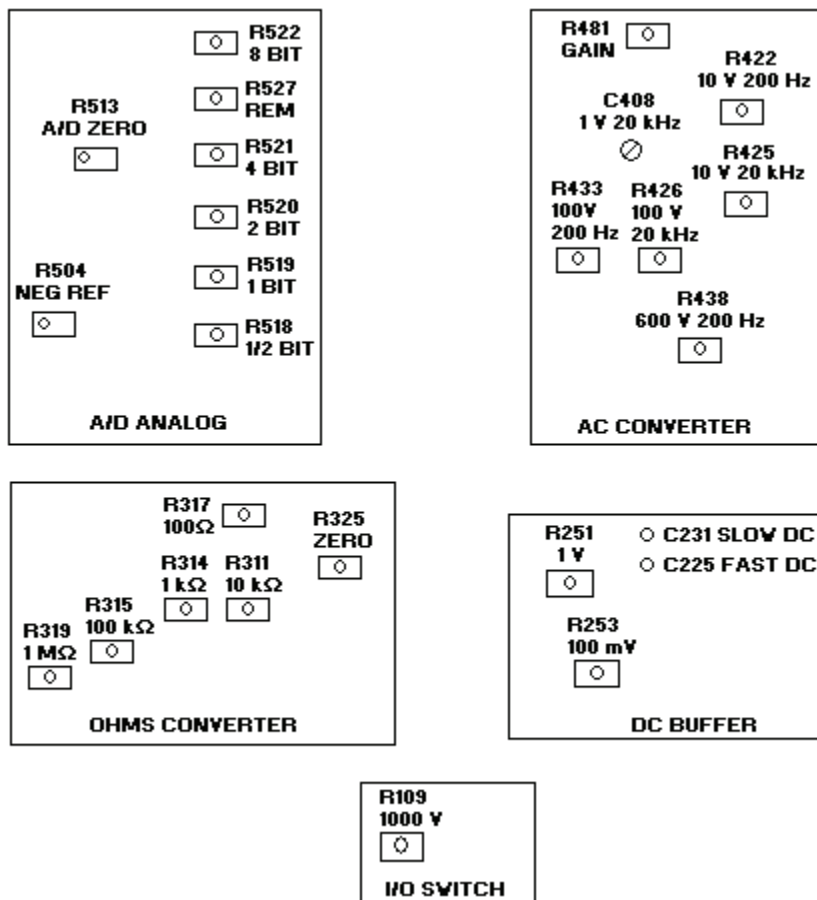
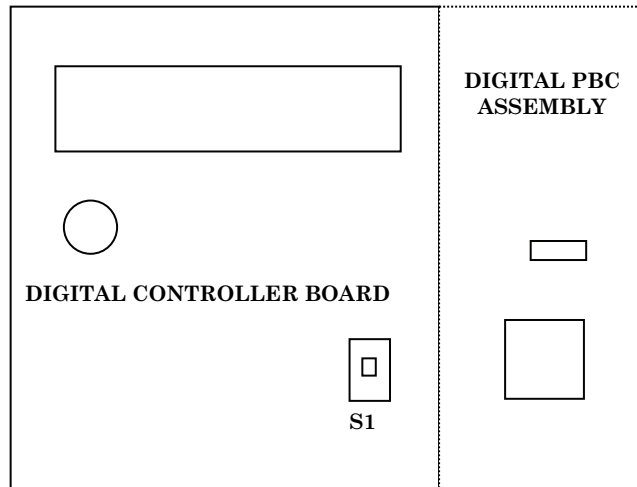

Figure 1. Adjustment locations.
Figure 2. Cal digit switch – S1 location.
- (1) Adjust DC BUFFER C231 SLOW DC (fig. 1) for TI indication between -0.001 and +0.001 mV dc (R).
- (2) Press **READING RATE** Δ or ∇ pushbutton to select **10/SEC** rate.
- (3) Adjust DC BUFFER C225 FAST DC (fig. 1) for TI indication of 0.000 mV dc with the + and - signs alternating (R).
- (4) Press **READING RATE** Δ or ∇ pushbutton to select **10/SEC** rate.
- (5) Set calibrator for a 190 mV output. Adjust DC BUFFER R253 100 mV (fig. 1) for TI indication between 189.998 and 190.002 mV dc (R).
- (6) Press S1 (fig. 2) to select cal digit mode.
- (7) Set calibrator for a 1.9 V output. Adjust DC BUFFER R251 1V (fig. 1) for TI indication between 1.89999 4 and 1.90000 6 VD (R).
- (8) Press S1 (fig. 2) to return to normal mode.
- (9) Press S1 (fig. 2) to select cal digit mode.
- (10) Set calibrator to **STANDBY** and disconnect calibrator from TI.
- (11) Short TI **V/ Ω INPUT HI** and **LO**. Adjust A/D ANALOG R513 A/D ZERO (fig. 1) for TI indication between $-0.0000\ 2$ and $+0.0000\ 2$ VD (R).
- (12) Remove short and connect calibrator **OUTPUT HI** and **LO** to TI **V/ Ω INPUT HI** and **LO**.
- (13) Set calibrator for a -8.1 V output. Adjust A/D ANALOG R522 8 BIT (fig. 1) for TI indication between $-8.0999\ 8$ and $-8.1000\ 2$ VD (R).
- (14) Set calibrator for a $+8.1$ V output. Adjust A/D ANALOG R504 NEG REF (fig. 1) for TI indication between $8.0999\ 8$ and $8.1000\ 2$ VD (R).
- (15) Set calibrator for a 4.1 V output. Adjust A/D ANALOG R521 4 BIT (fig. 1) for TI indication between $4.0999\ 8$ and $4.1000\ 2$ VD (R).
- (16) Set calibrator for a 2.1 V output. Adjust A/D ANALOG R520 2 BIT (fig. 1) for TI indication between $2.0999\ 8$ and $2.1000\ 2$ VD (R).
- (17) Set calibrator for a 1.1 V output. Adjust A/D ANALOG R519 1 BIT (fig. 1) for TI indication between $1.0999\ 8$ and $1.1000\ 2$ VD (R).
(18) Set calibrator for a 0.6 V output. Adjust A/D ANALOG R518 1/2 BIT (fig. 1) for TI indication between 0.5999 8 and 0.6000 2 VD (R).
(19) Set calibrator for a 0.3 V output. Adjust A/D ANALOG R527 REM (fig. 1) for TI indication between 0.2999 8 and 0.3000 2 VD (R).
(20) Press S1 (fig 2) to return to normal mode.
(21) Press S1 (fig. 2) to select cal digit mode.
(22) Set calibrator for a 120 V output. Adjust I/O SWITCH R109 1000 V (fig. 1) for TI indication between 119.999 4 and 120.000 6 VD (R).
(23) Press S1 (fig. 2) to return to normal mode.
- (1) Press **READING RATE** Δ or ∇ pushbutton to select **2/SEC** rate.
- (2) Press S1 (fig. 2) to select cal digit mode.
- (3) Adjust OHMS CONVERTER R325 ZERO (fig. 1) for TI indication of $-0.0000\ 0 \pm 20$ cal digits (R).
- (4) Press S1 (fig. 2) to return to normal mode.
- (5) Press S1 (fig. 2) to select cal digit mode.
- (6) Adjust OHMS CONVERTER R317 $100\ \Omega$ (fig. 1) for TI indication equal to calibrator output display rounded to TI digits of resolution ± 15 cal digits (R).
- (7) Press S1 (fig. 2) to return to normal mode.